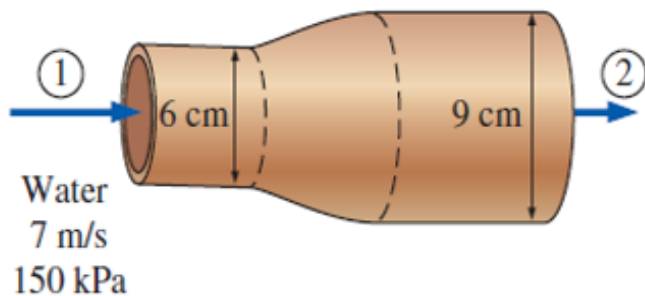

Figure-1
8. A 6-cm-diameter horizontal water pipe expands gradually to a 9-cm-diameter pipe (Shown in Figure-1). The walls of the expansion section are angled 10° from the axis. The average velocity and pressure of water before the expansion section are 7 m/s and 150 kPa, respectively. Determine the head loss in the expansion section and the pressure in the larger diameter pipe.